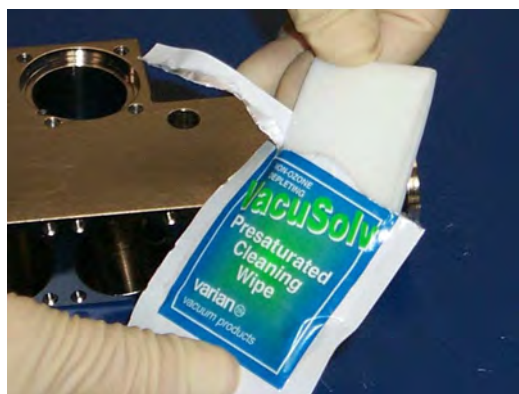

Figure 4-22 VacuSolv Cleaning Wipe
4. Using the VacuSolv presaturated cleaning wipes and swabs (Figure 4-22), thoroughly wipe down all surfaces of the spectrometer tube body, magnetic pole pieces, and ground slit plate.